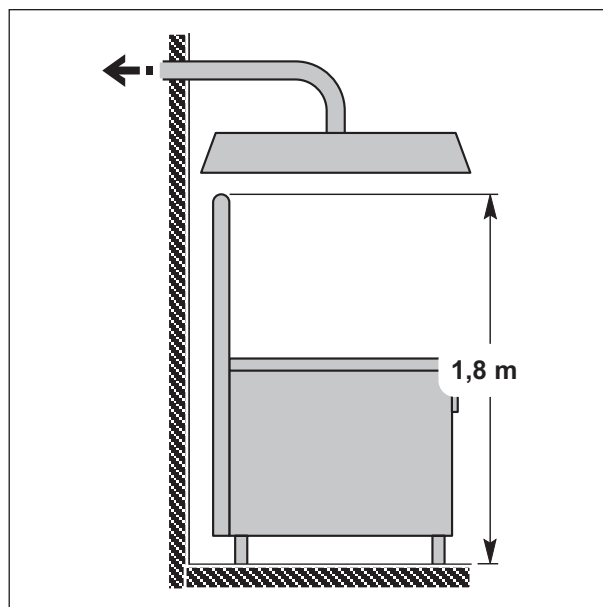

Fig. 27 Fume extraction through extraction hood
- The final part of the appliance extraction duct must be about **1.8 m** from the appliance support surface; the outlet of the combustion product extraction duct must be placed within the basic perimeter of the hood (see Fig. 27 Fume extraction through extraction hood).